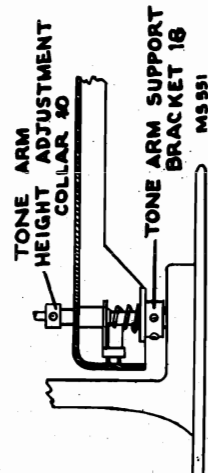

FIG. 9
2. With the pickup near the edge of the record, loosen the set screw, holding collar 10, fig. 9, and moving it up or down on shaft 47, so as to have the conditions indicated in sketch, fig. 5.